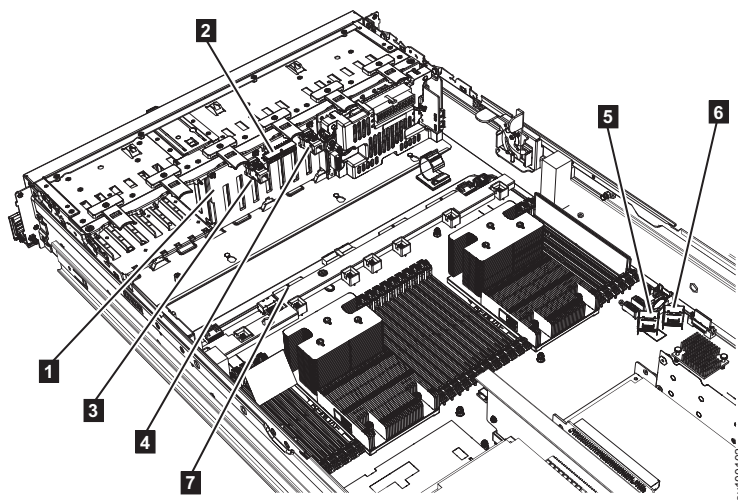

Figure 134. The 2145-SV1 SATA drive backplane and connectors
9. Disconnect all cables from the SATA drive backplane. Figure 134 on page 159 shows the location of the SATA drive backplane and connectors.